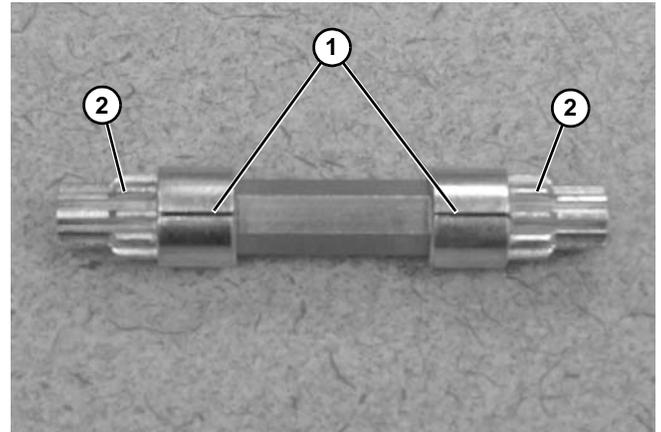

Figure 147
5. To reassemble, make sure that the lines (**Figure 147, item 1**) on the pinion end gears (**Figure 147, item 2**) are aligned.